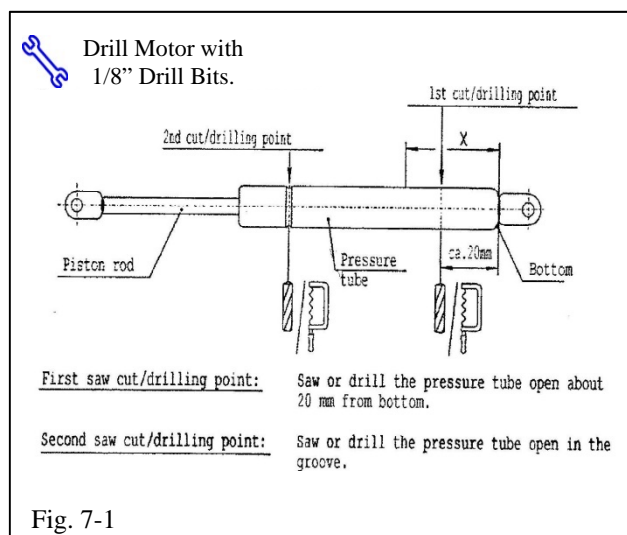

Fig. 7-1
- (b) Without deforming the gas lift strut, clamp it between two V-blocks in such a way that the dimension X is at least 25 mm (Fig. 7-1).
- (c) For venting, slowly drill or saw open the gas lift strut at the two points shown. Drilling with a 1/8" diameter drill bit is the preferred method (Fig. 7-1).